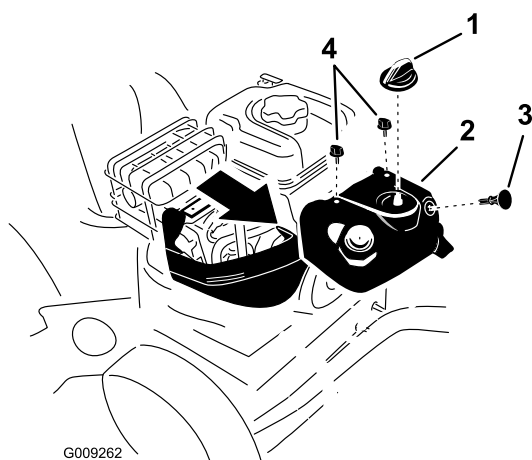

Figure 46
Note: To access the spark plug, you must first remove the upper snow hood (Figure 46).
1. Remove the choke knob and the ignition key (Figure 46).
2. Remove the 2 screws that secure the upper snow hood to the machine (Figure 46).